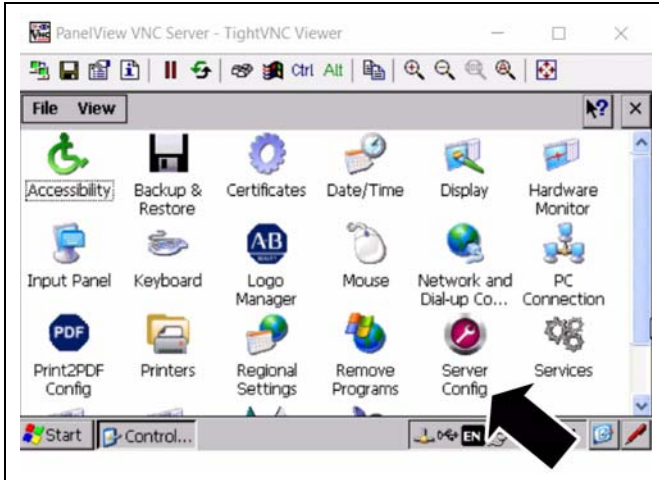
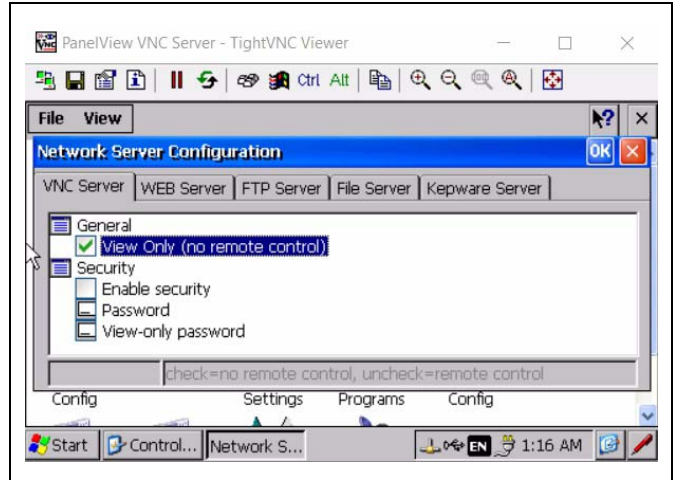

Figure 3J
Figure 3K
7. Double-click Server Config to be taken to this screen. (See Figure 3J and Figure 3K.)